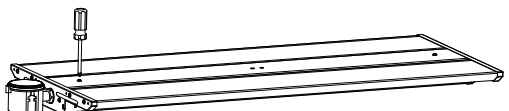

Figure 11
3. Put the face cover back on with a screw driver (Figure 11).